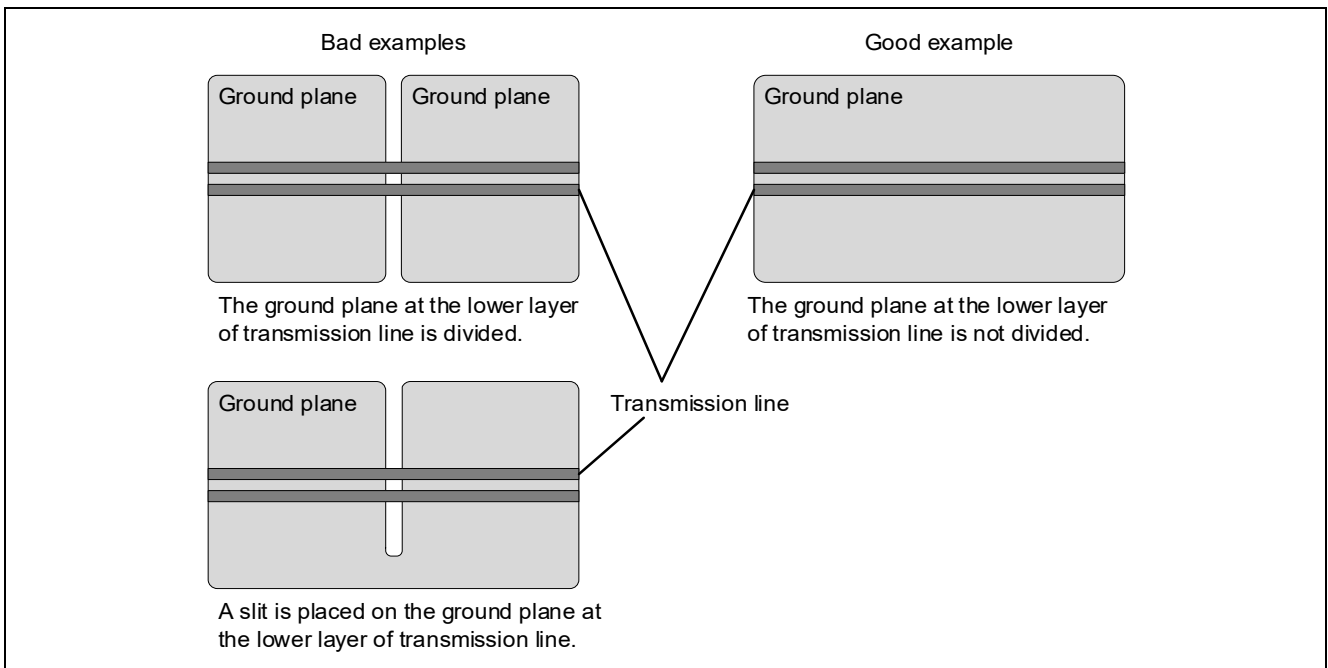

Figure 2.3 Examples of ground plane under transmission lines
- The lower layer of transmission line must be a ground plane. Do not divide the plane with slits, etc. Figure 2.3 shows examples of ground planes under the transmission lines.